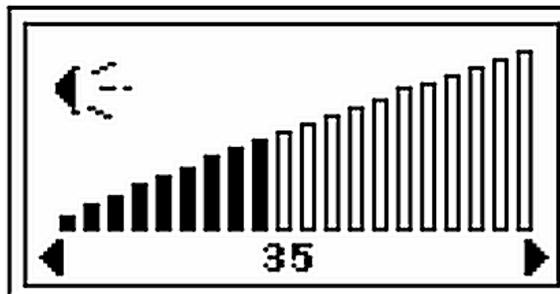

Figure 2-5 Speaker Volume Setup Configuration Screen
2. Press **Enter** and the configuration screen appears (Figure 2-5).